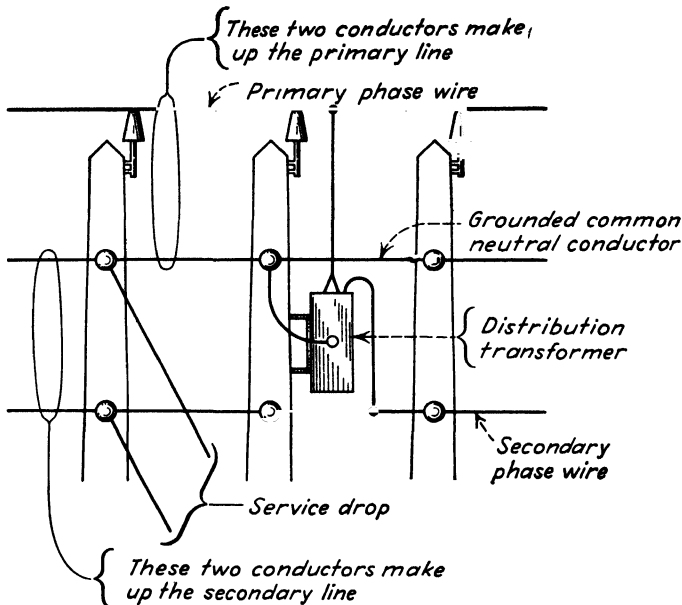

FIG. 23-9. Use of common grounded-neutral conductor for both primary and secondary circuits.
7. By using the same neutral on both primary and secondary circuits, no additional neutral is required when a secondary circuit is constructed under the primary line. Figure 23-9 shows by diagrammatic sketch a primary line made up of a phase wire and neutral and a secondary line built under the primary. Note that the grounded neutral conductor is common to both circuits. This results in a saving in cost of one conductor, pole height, etc.